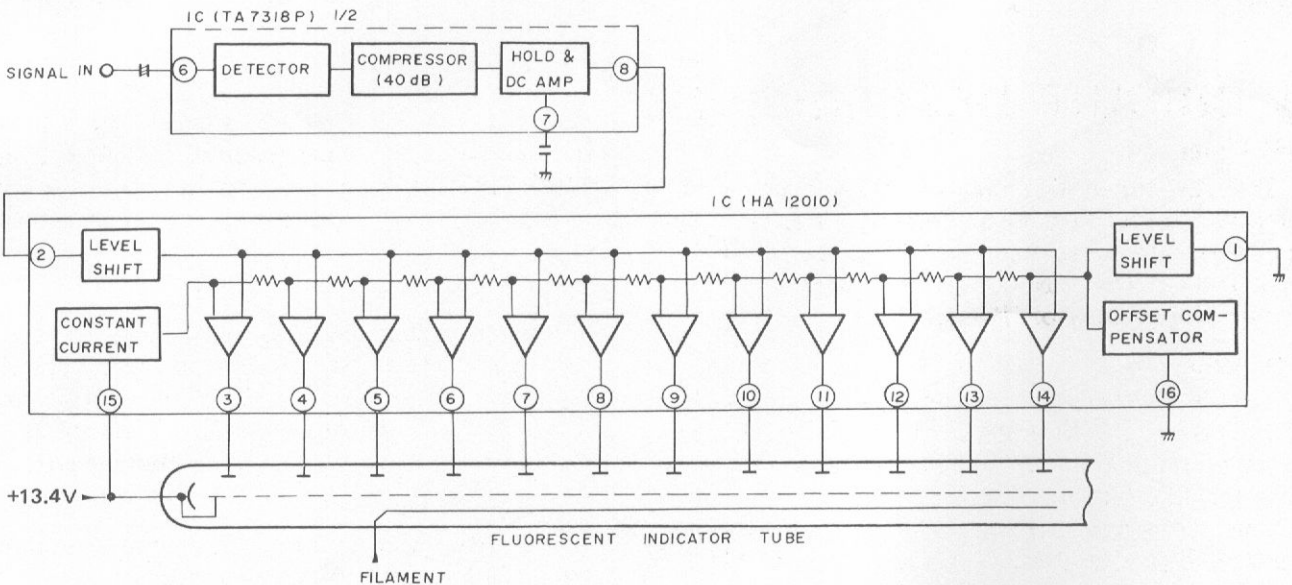

Fig. 4-1 Power indicator circuit
An outline of the FL tube drive circuit is shown in Fig. 4-1. The output circuit signal is applied to pin no.6 (4) of the IC (TA7318P-A). The IC contains a detector circuit, compressor (40dB), and peak hold circuit for both left and right channels. The dynamic range of the signal is thus contracted by 40dB to obtain a "peak held" DC voltage.